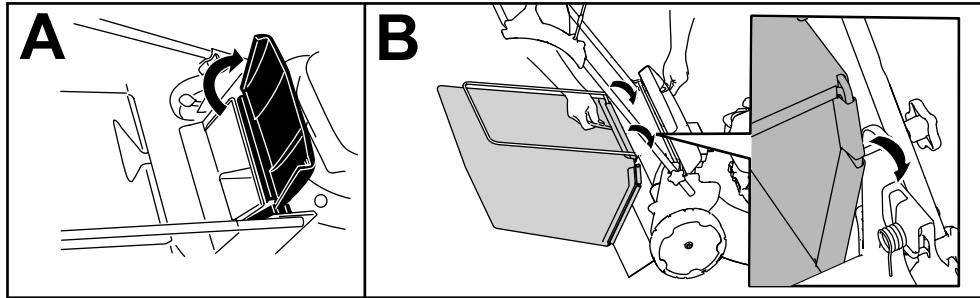

Figure 17
1. Raise and hold up the rear deflector (A of Figure 17).
2. Install the grass bag, ensuring that the pins on the bag rest in the slots on the handle bracket (B of Figure 17).